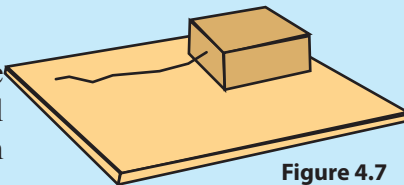

Figure 4.7
- Fix a nail at the mid point on one side of the wooden block. Tie a piece of thread to the nail (figure 4.7). So that the thread is leaning on the block.